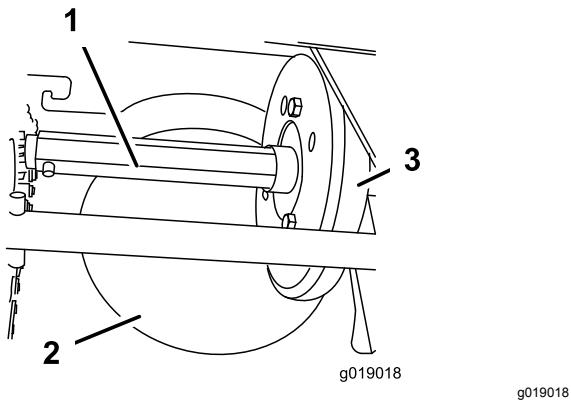

Figure 42
Lightly lubricate the hex shaft yearly with automotive engine oil (Figure 42).
**Important: Do not get oil on the rubber wheel or the steel friction pulley because the traction drive will slip (Figure 42).**